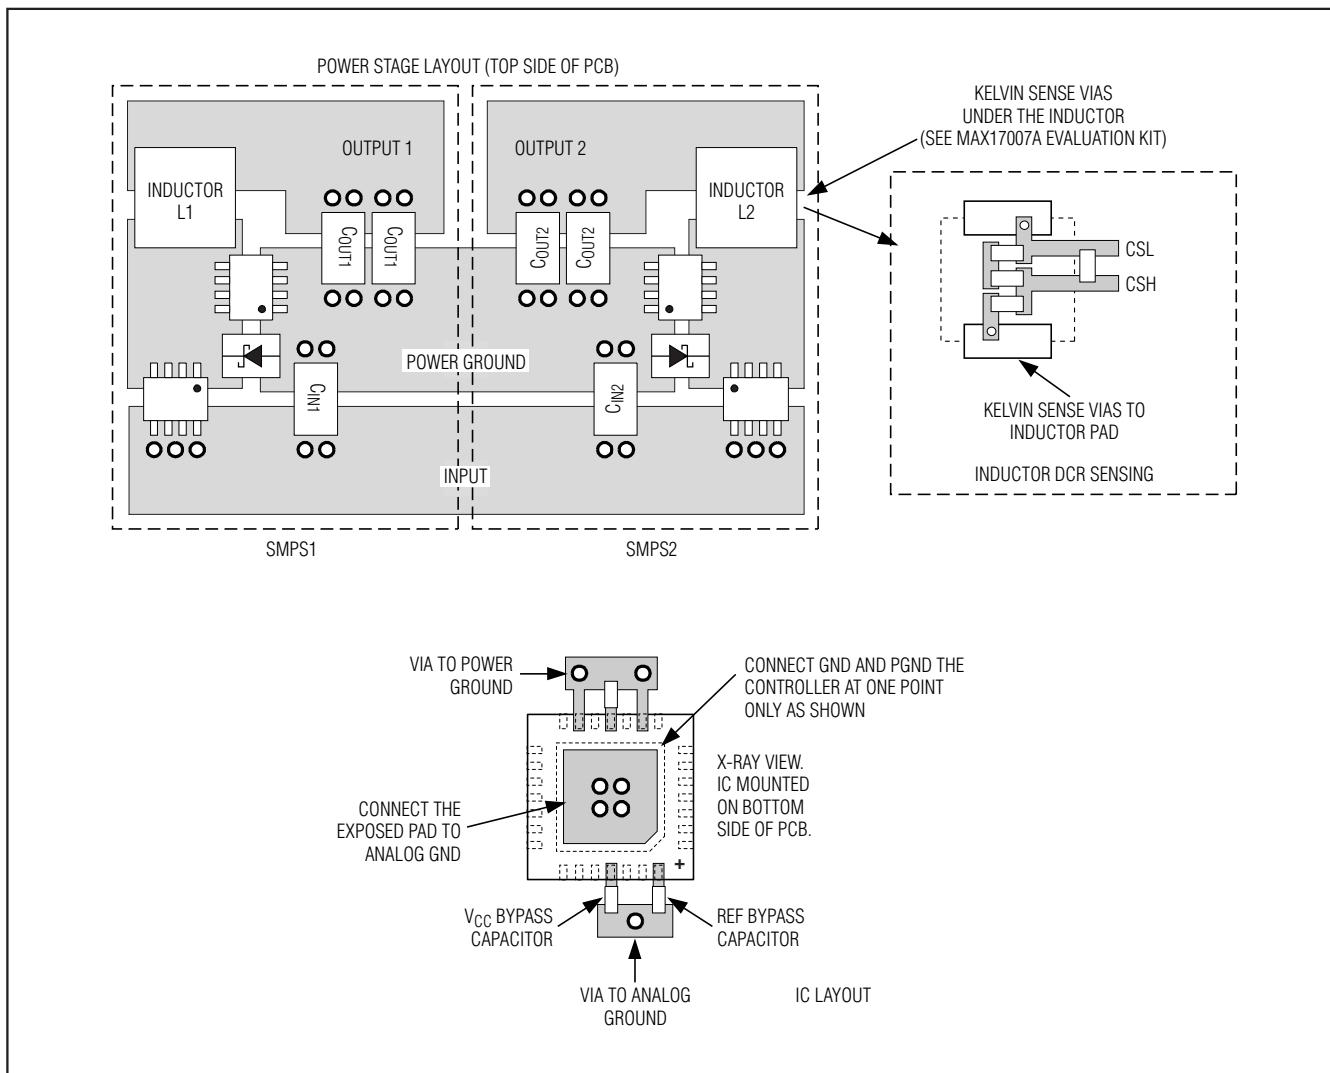

Figure 15. PCB Layout Example
- 5) Connect the output power planes (VOUT and system ground planes) directly to the output filter capacitor positive and negative terminals with multiple vias. Place the entire DC-DC converter circuit as close to the load as is practical. See Figure 15.